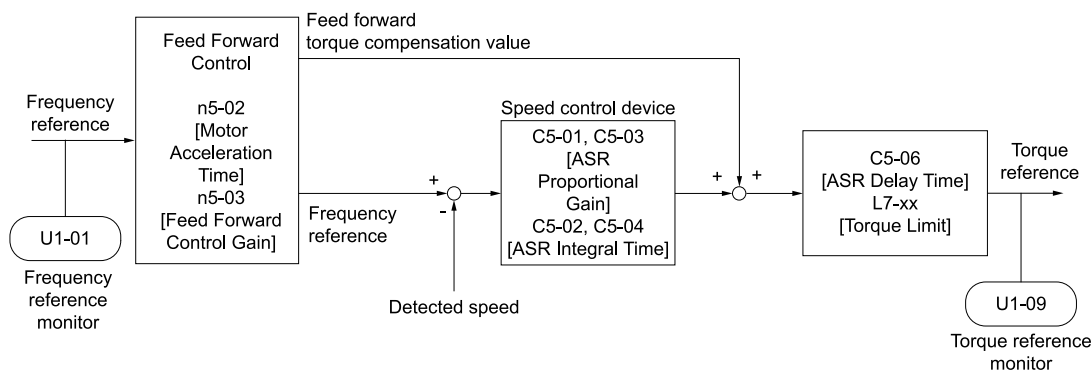

Figure 2.128 Configure Feed Forward Control
Increase the values set in *C5-01* and *C5-03* [ASR Proportional Gain] to apply feed forward control to machines that have low rigidity and are possible to have hunting and vibration or to machines that have a large quantity of inertia. Refer to Figure 2.128 for more information about parameters related to feed forward control.
- If you cannot do Inertia Tuning, refer to Figure 2.128 and set the parameters related to feed forward control individually.